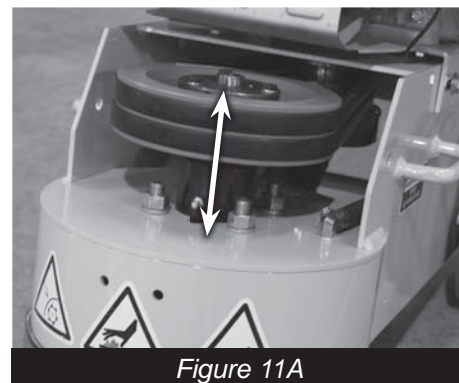

Figure 11A
- Inspect for lash in head (Does head move up/down)? (*Figure 11A*). Verify that jam nuts, items 10 on page 9 in Parts Breakdown are tight and there isn't any play. Allowing these nuts to remain loose can damage the head assembly.